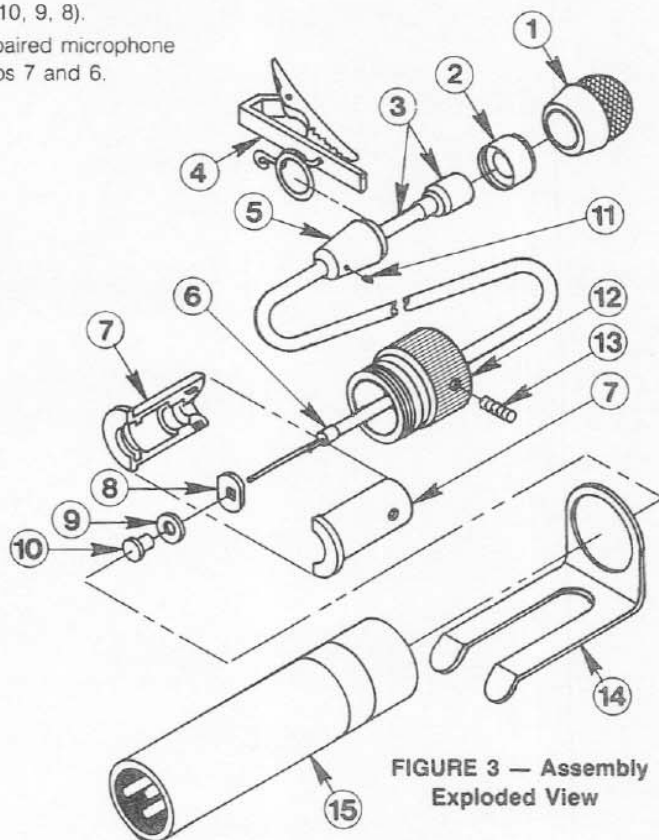

FIGURE 3 — Assembly Exploded View
1. Disassemble the CO90/CO9E microphone to be repaired as follows: (refer to Figure 3)